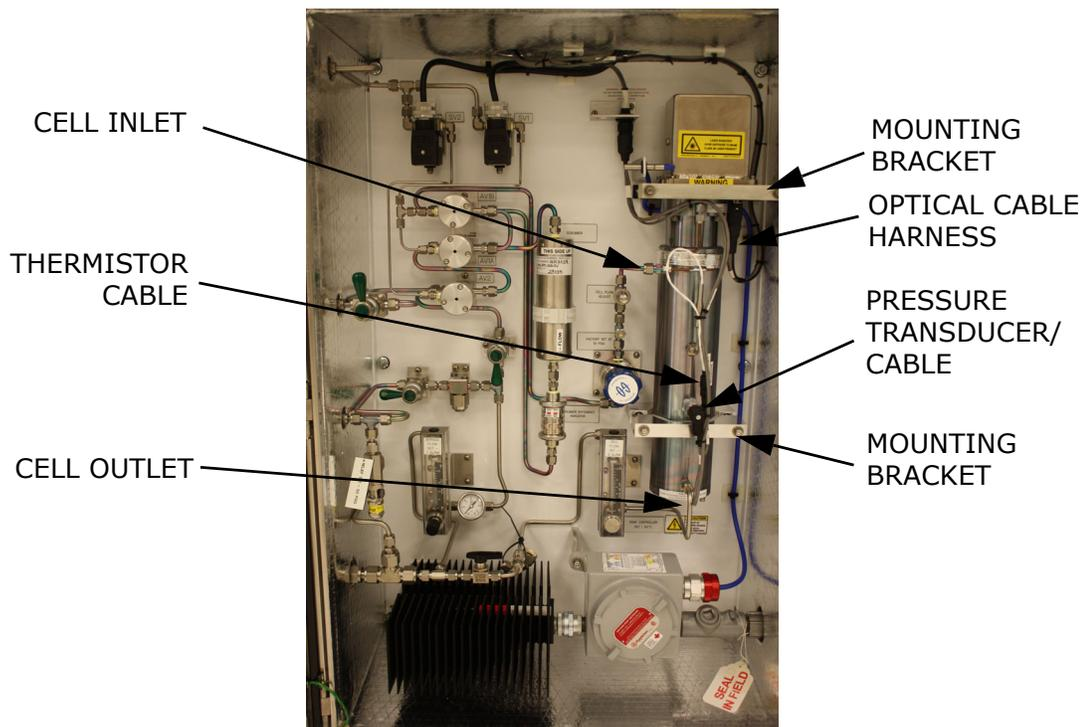

Figure B-3 SCS cabinet interior
5. Open the door to the SCS enclosure. Refer to Figure B-3 on page B-9.